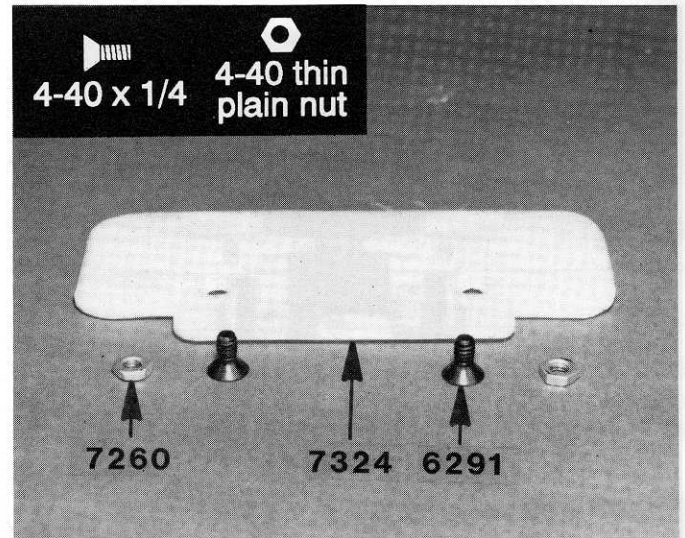

**Fig. 32**
□ **Figs. 32 & 33** Install the two #7319 front body mounts (from Bag 7-5) to the #7318 body mount brace with the two 4-40 x 1/4" round button head screws. Align the small body clip holes in the ends of the body mounts so they point to the left and right. Tighten screws, but not too tight. Install the brace onto the front bulkhead with two 4-40 x 3/8" SHCS screws as shown. Do not overtighten screws.